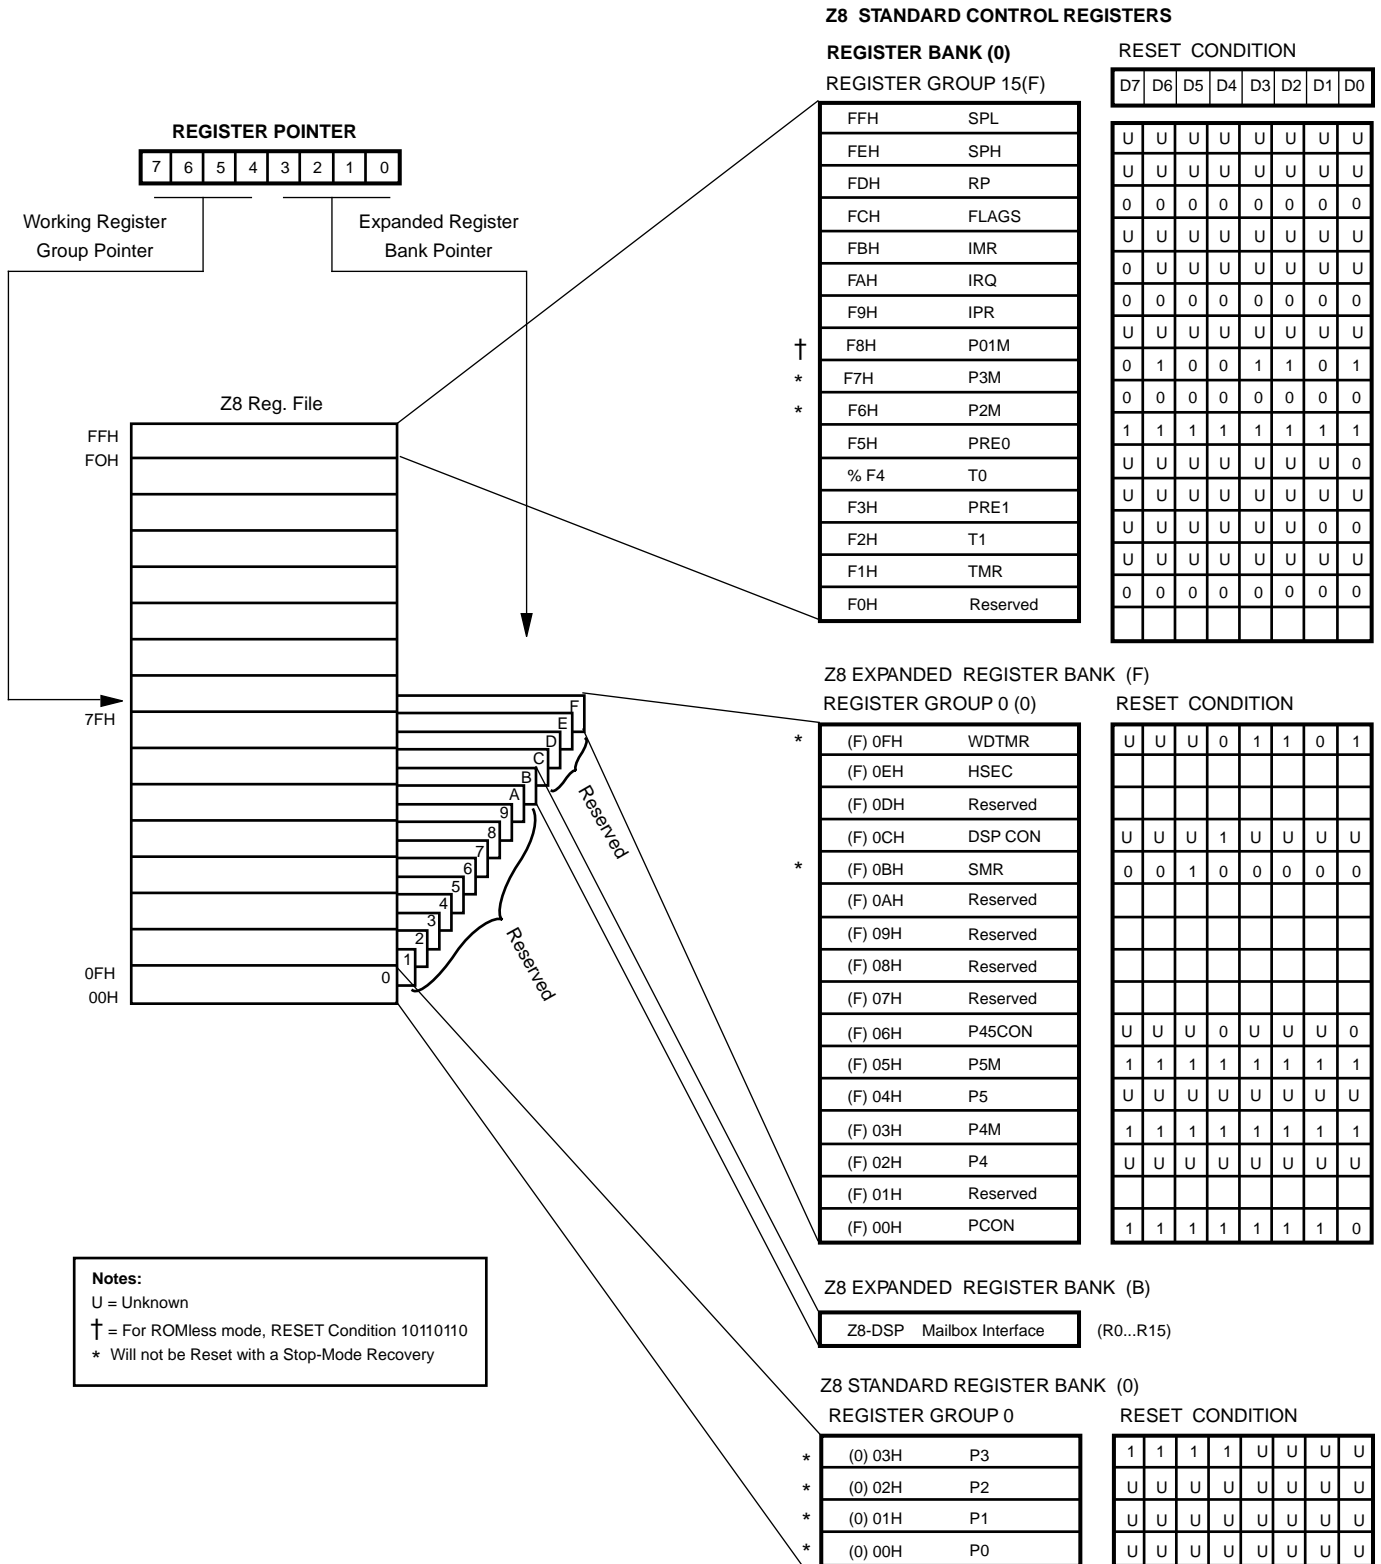

Figure 21. Expanded Register File Architecture
**RAM Protect.** The upper portion of the Z8's RAM address spaces 80H to EFH (excluding the control registers) is protected from reading and writing. The RAM Protect bit option is mask-programmable and is selected by the customer when the ROM code is submitted. After the mask option is selected, the user activates the RAM Protect from the internal ROM code by loading a bit D6 in the IMR register to either a 0 (OFF) or a 1 (ON). A 1 in D6 indicates RAM Protect enabled.
**Expanded Register File.** The register file on the Z8 has been expanded to allow for additional system control registers and for mapping of additional peripheral devices along with I/O ports into the register address area. The Z8 register address space has been implemented as 16 banks of 16 register groups per bank (Figure 20). These register banks are known as the ERF (Expanded Register File). Bits 7-4 of register RP (Register Pointer) select the working register group. Bits 3-0 of register RP select the Expanded Register bank (Figure 21).